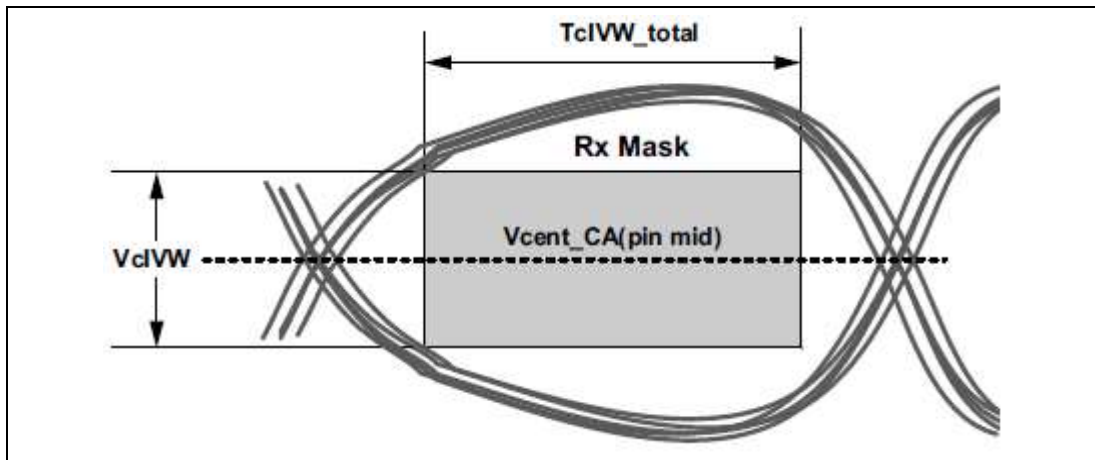

Figure 166 - CA Receiver (Rx) Mask
The command and address(CA) including CS input receiver compliance mask for voltage and timing is shown in Figure 166. All CA, CS signals apply the same compliance mask and operate in single data rate mode.